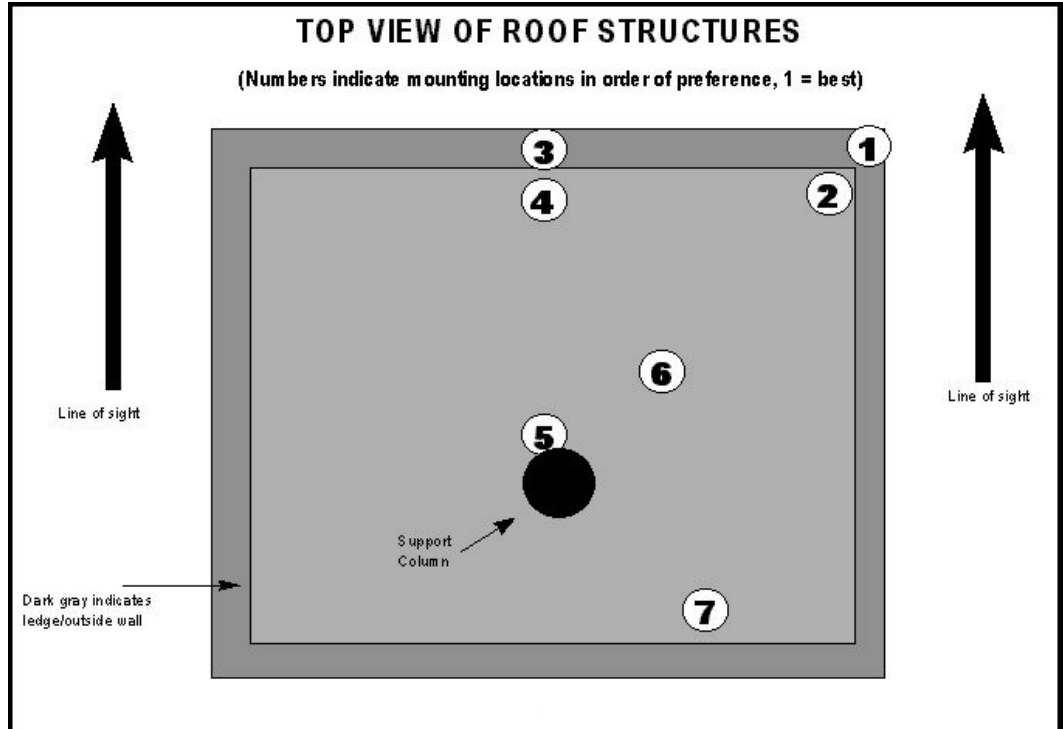

Figure 2.5: Mounting Locations in Order of Preference
2. Photograph the mounting location so as to select the best mounting option. Figure 2.5 shows mounting locations on a rooftop in descending order of preference. Location 1 is the best; location 7 is the worst.